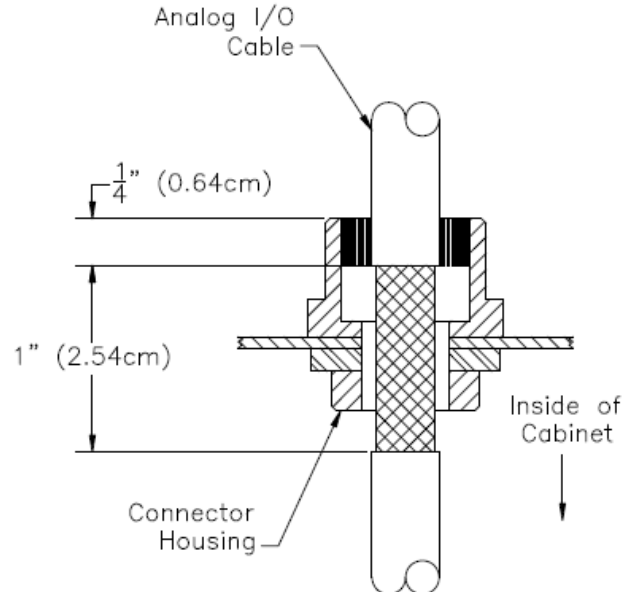

Figure 7: I/O Cable Stripping
2. Route the desired length of I/O cable through the connector housing and mark 1" span of cable that passes through the connector housing to be stripped to braid (See Figure 7).
4. Slide the cable grommet hardware onto the cable in the order shown in Figure 7.